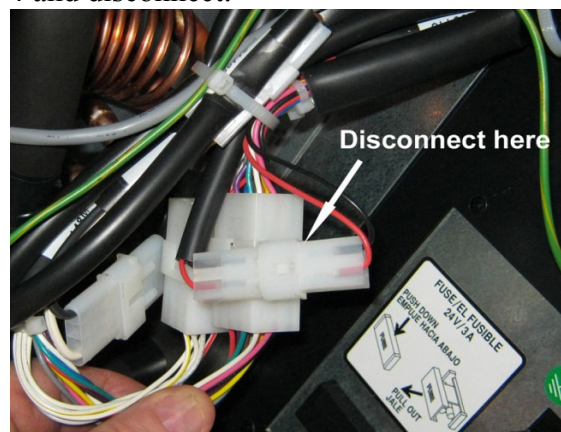

Figure 4
5. Locate the Red and Black DC supply wires that run up to the Control Board (located near the ON-OFF Switch) as shown in Figure 4 and disconnect.